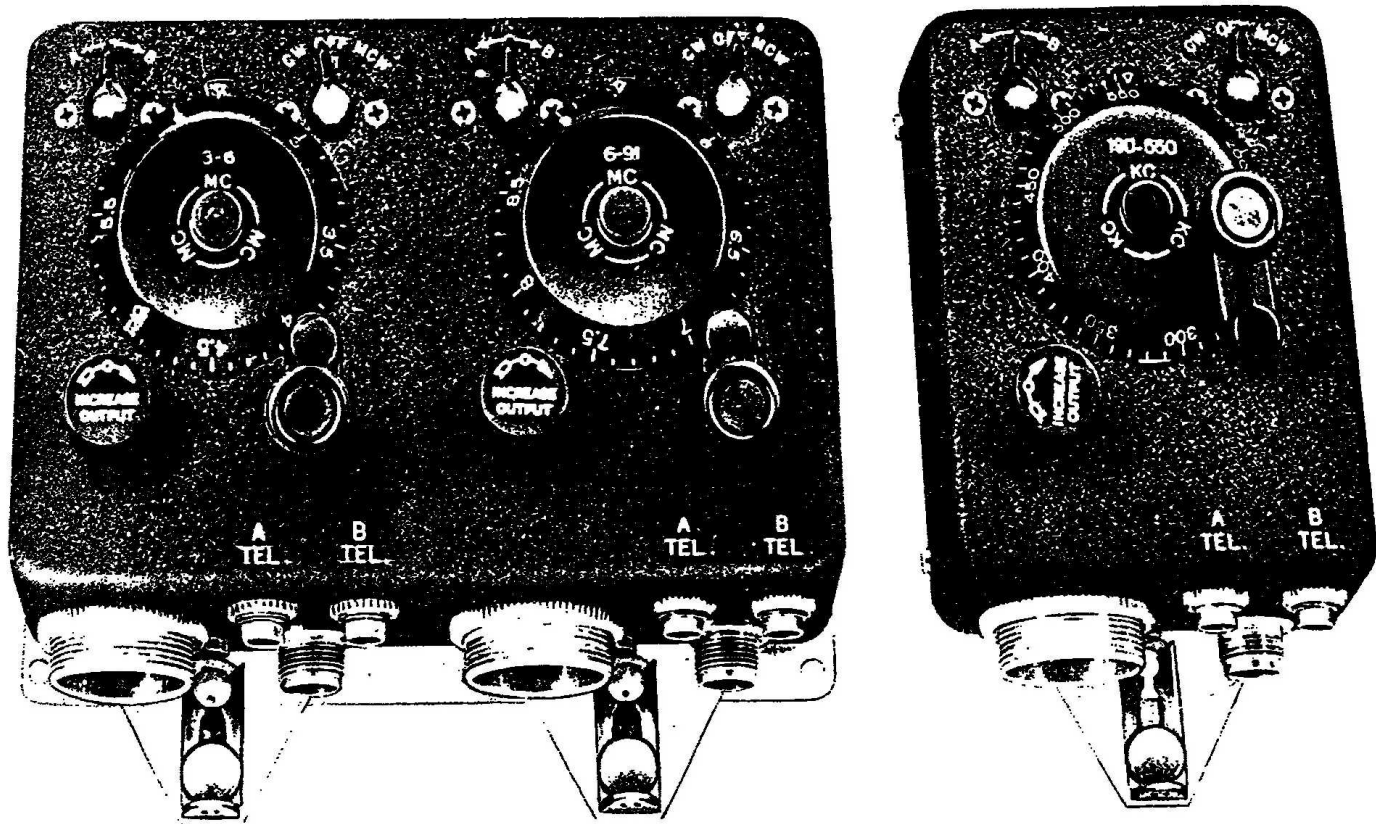

FIGURE 10—LEFT, RADIO CONTROL BOX BC-496-A (FOR TWO RECEIVERS); RIGHT, RADIO CONTROL BOX BC-473-A (OR -B) (FOR ONE RECEIVER)
(1) Radio Control Box BC-450-A provides for three radio receivers. It is shown in Figures 1 and 9, and a schematic circuit diagram of the electrical connections is shown in Figure 26. Radio Control Boxes BC-496-A and BC-473-A (or -B) provide for two and one receivers, respectively. They are shown in Figure 10. Practical wiring diagrams for the three units are shown in Figure 45. Electrically and mechanically, except for the calibration markings on the dials, each section of these radio control boxes is like every other section. Each section is used independently to tune and control one receiver.